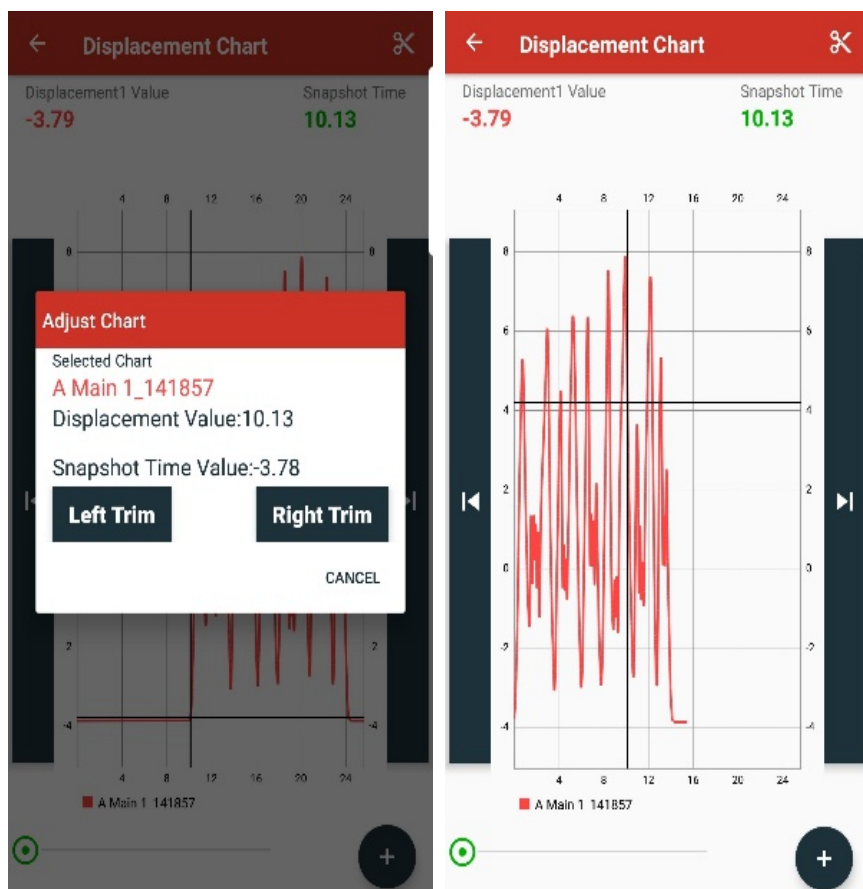

Figure 38: Adjust chart menu (Left), left trimmed chart (Right)
11. Once selected, the trimming option will show a menu asking for left trim or right trim, in the case of the example, the left trim is selected to rid of the unwanted data to the left of the cursor, the result of the trim is shown in Figure 38. NOTE: the right trim will trim the data to the right of the cursor with same procedures.